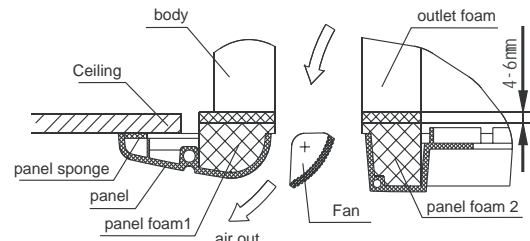

Fig.5-11
- Keep fastening the screws under the panel hooks, until the thickness of the sponge between the body and the panel's outlet has been reduced to about 4-6mm. The edge of the panel should contact with the ceiling well. (Refer to Fig.5-11)